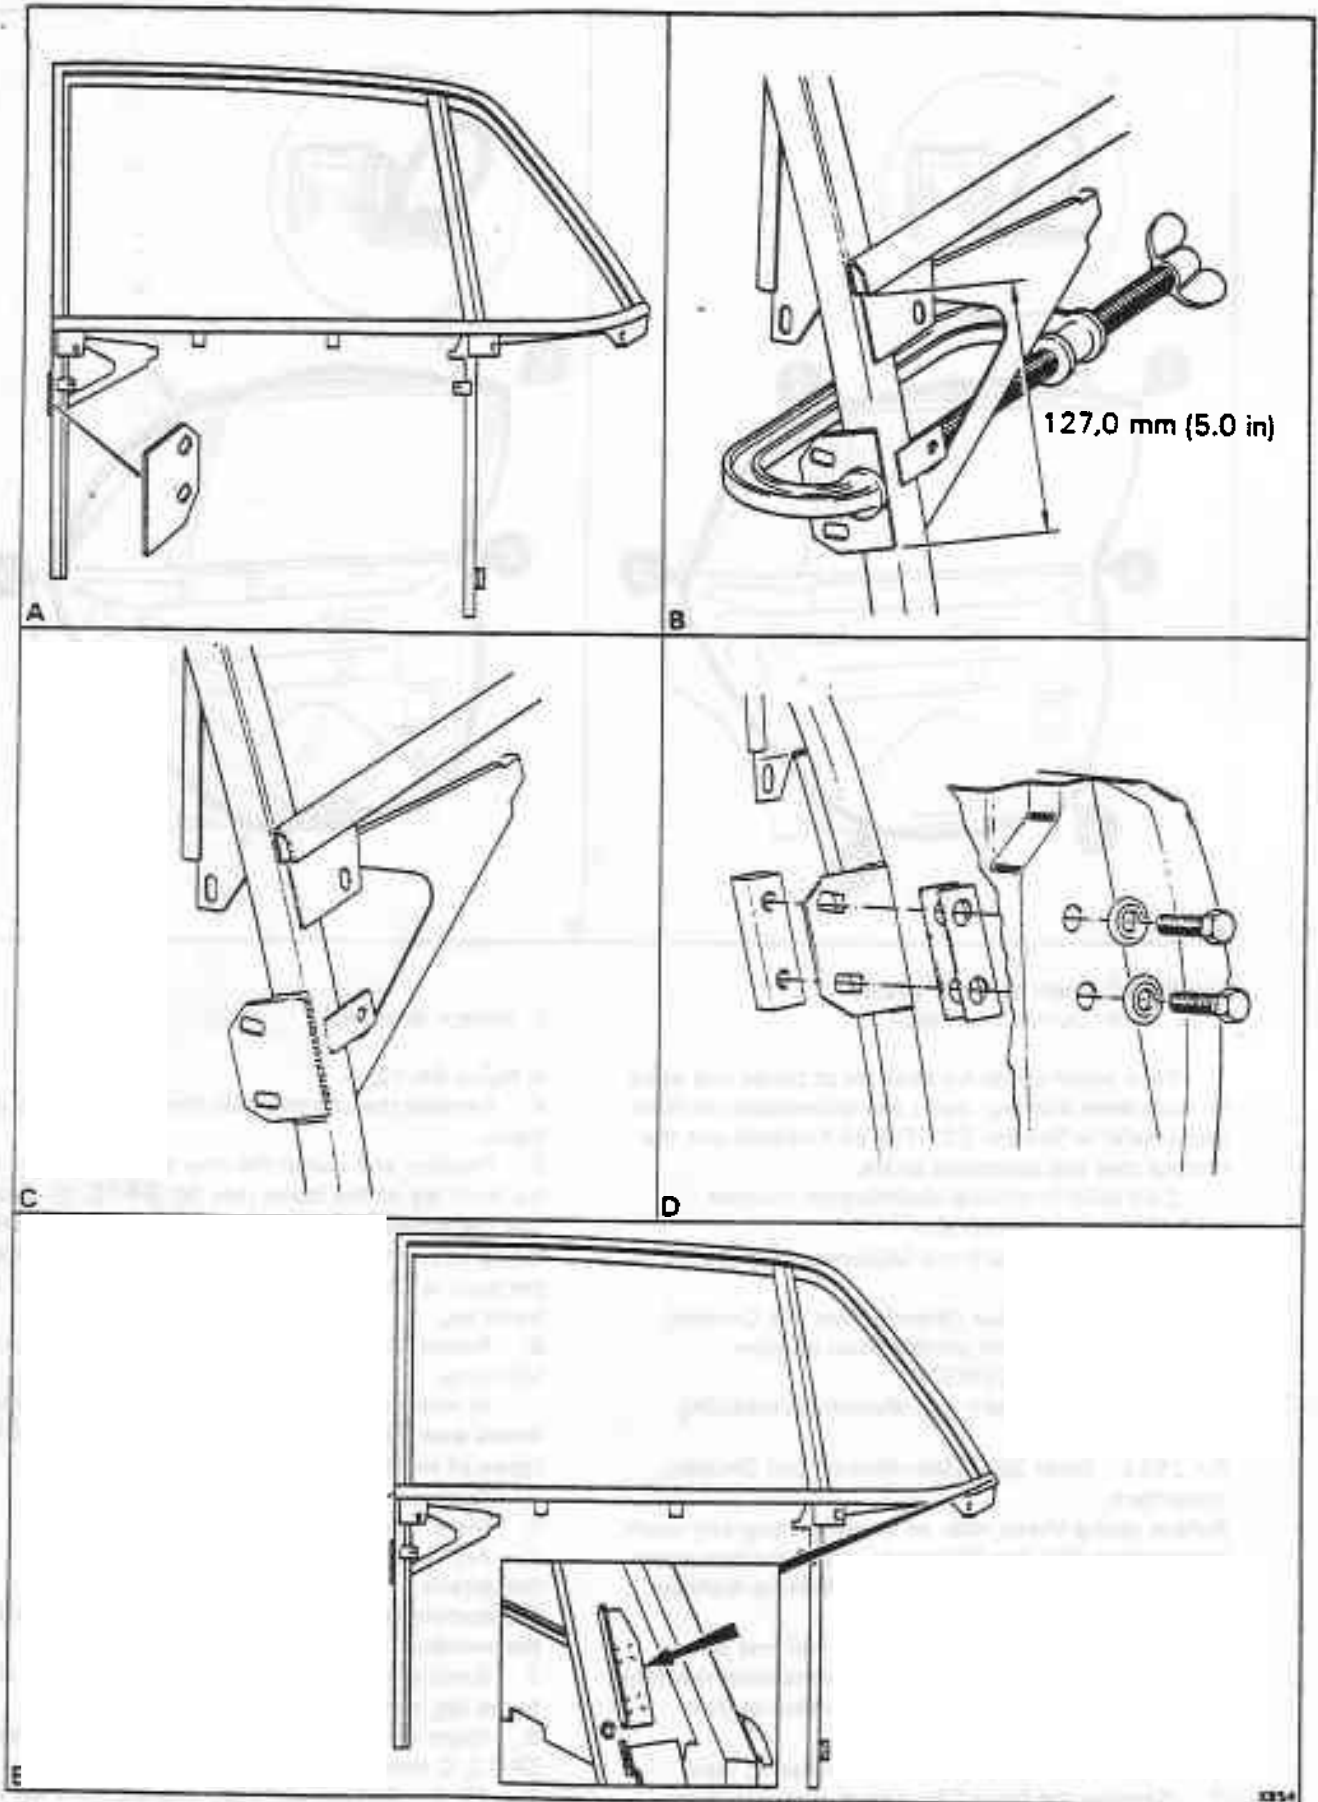

Fig. S4-12 Window frame modifications
in figure S4-12, A.
5. Position and clamp the new stiffening plate onto the front leg of the frame (see fig. S4-12, B). Ensure that the elongated holes in the stiffening plate are facing uppermost. Also ensure that the back edge of the plate is positioned parallel with the radius of the frame leg.
8. Weld the plate into position as shown in figure S4-12, C then remove the clamp.